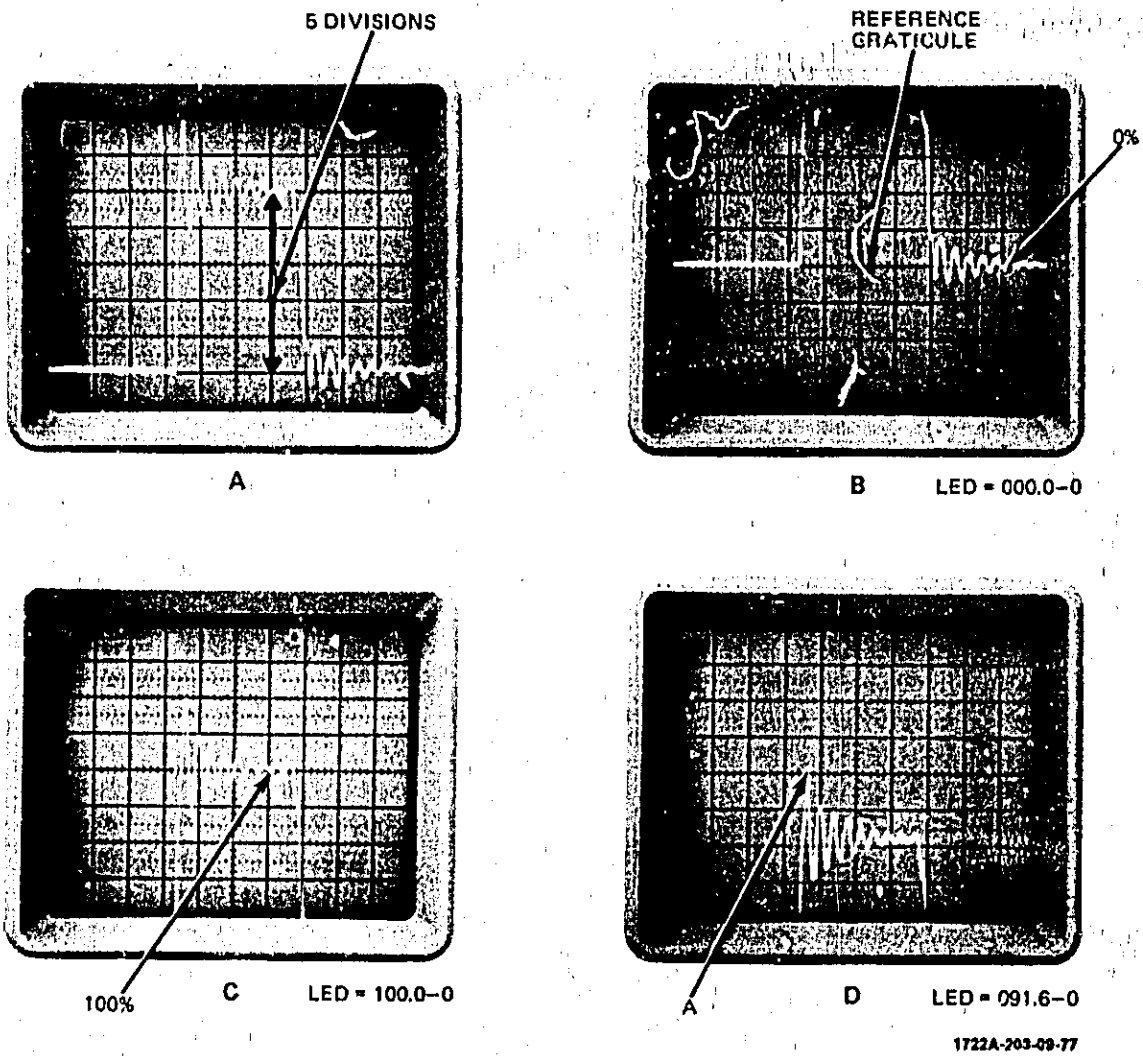

Figure 3-6. Waveform Percentage Measurement
d. Adjust channel A vernier until the 0% and 100% points are exactly 5 vertical divisions apart (A in figure 3-6).
f. Set reference 0% point on waveform to center horizontal graticule line using channel A POSITION control (B in figure 3-6).
i. Readjust channel A vernier until 100% point of waveform is on center horizontal graticule line (C in figure 3-6).
j. Using channel A POSITION control, set desired point of interest of waveform on center horizontal graticule line (D in figure 3-6).